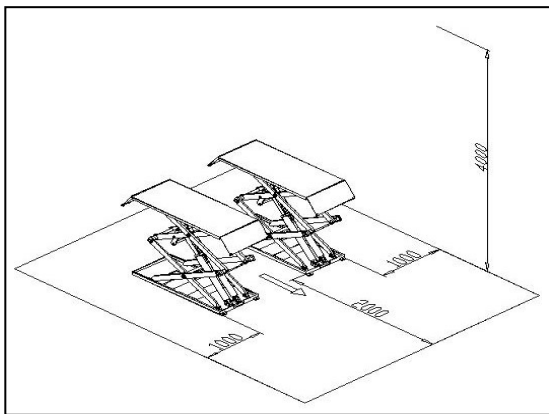

Fig. 14
- The car lift must be installed according to the specified safety distances from walls, pole and what other equipments stated. (**Fig. 14**)